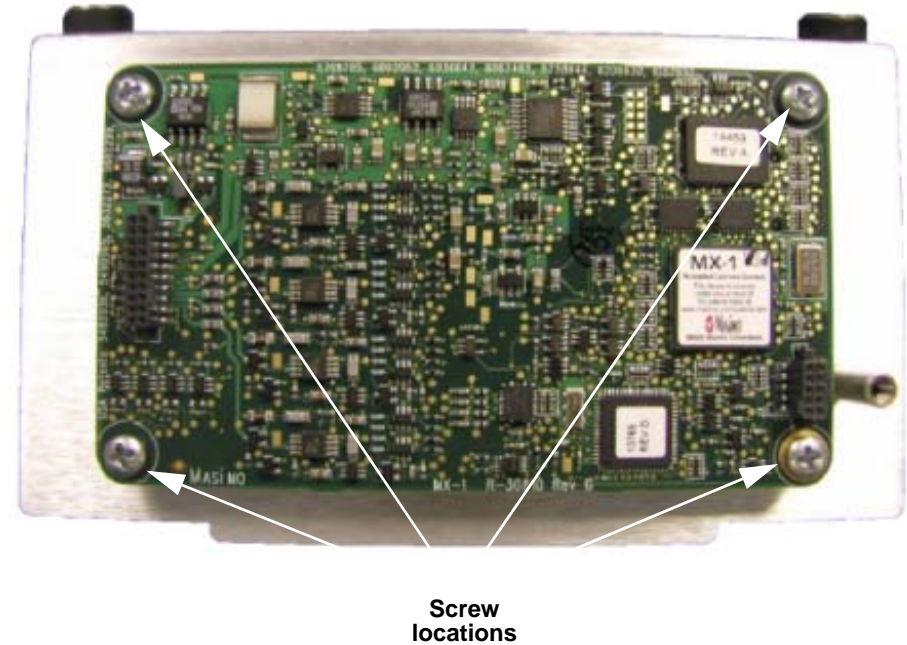

Figure 8.67—SpO2 PCB screw locations
2. Attach the SpO2 module to the bracket using four new screws (REF 21300-006251); torque to 4.0 in-lb (see Figure 8.67 on p. 275).